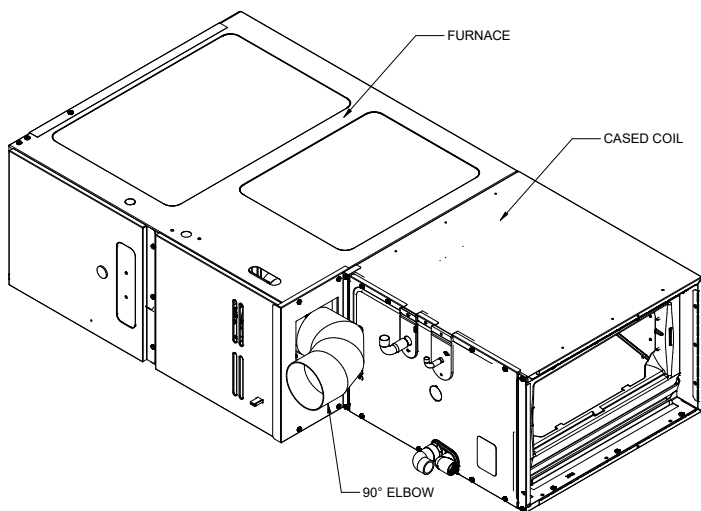

Figure 3A
4. In case of CHPTA1822A coil match up with 80% Furnace in Horizontal Right application, 90° elbow flue vent must be used and oriented away from the cased coil (see Figure 3A).